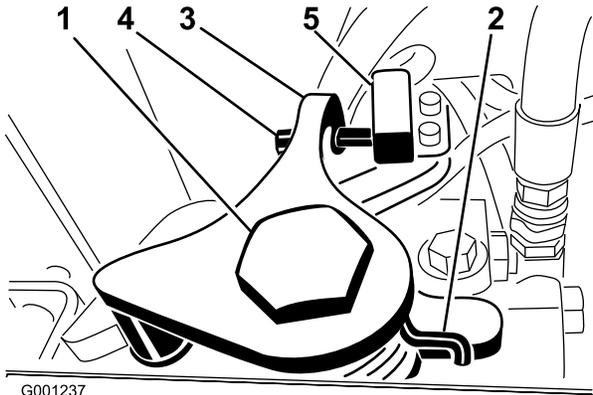

Figure 57
- Loosen the retaining screw on the opposite side of the traction adjustment cam (Figure 57).
- Adjust the screw on the neutral return arm (Figure 57) until the gap between the end of the screw and the switch contact is .23-.38 cm (.090-.120 inch).